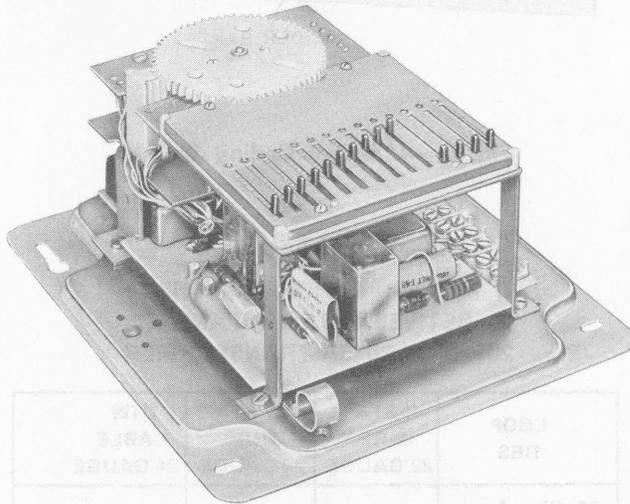

Fig. 1—43A Dial, Without 814775573 (P-47G557) Cover
1.03 The 43A dial (Fig. 1) is an automatic preset rotary dial for use where a single telephone number is repeatedly dialed. It can be used on either rotary or TOUCH-TONE® central office lines.